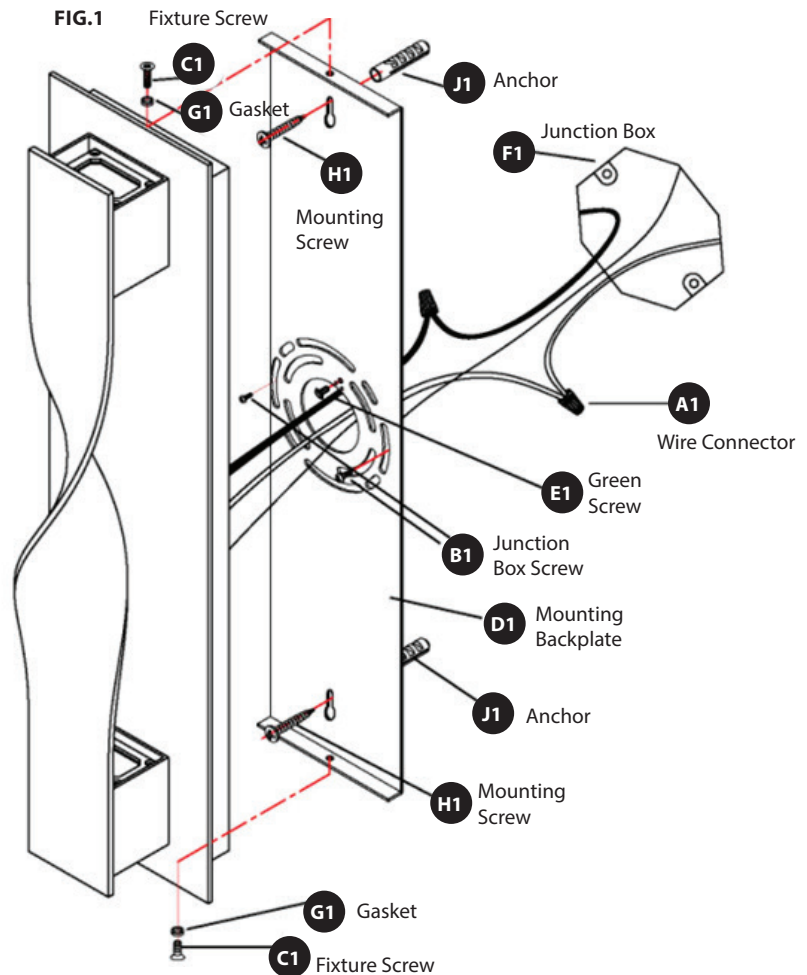

Fig.2 Wiring
4. Connect the fixture wires to junction box as shown in **Fig. 2**. Make sure that all wire connectors (A1) are secured. Fixture and junction box ground wires should be connected to mounting plate using green screw provided. After wires are connected, tuck them carefully inside the junction box.